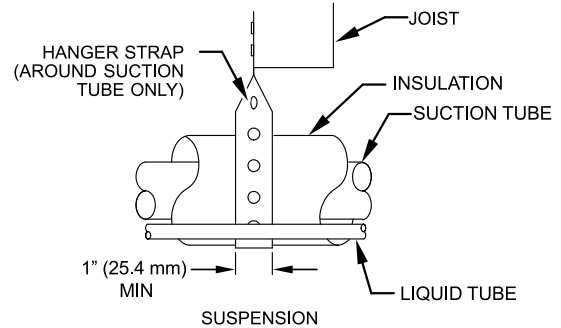

Fig. 1 – Connecting Tubing Installation
5. When passing refrigerant tubes through the wall, seal opening with RTV or other pliable silicon-based caulk. (See Fig. 1)
7. Do not suspend refrigerant tubing from joists and studs with a rigid wire or strap which comes in direct contact with tubing. (See Fig. 1)
9. When necessary, use hanger straps which are 1 in. (25.4 mm) wide and conform to shape of tubing insulation. (See Fig. 1)